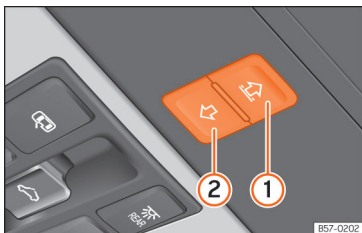

Fig. 129 On the interior roof lining: switches for the sun blind.
Buttons **» Fig. 129 1** and **2** have two levels. The first level opens or closes the sun blind fully or partially.
• *Sun blind*: within approximately 5 seconds of having activated the anti-trap function, press button »» Fig. 129 (2) until the sun blind closes completely.